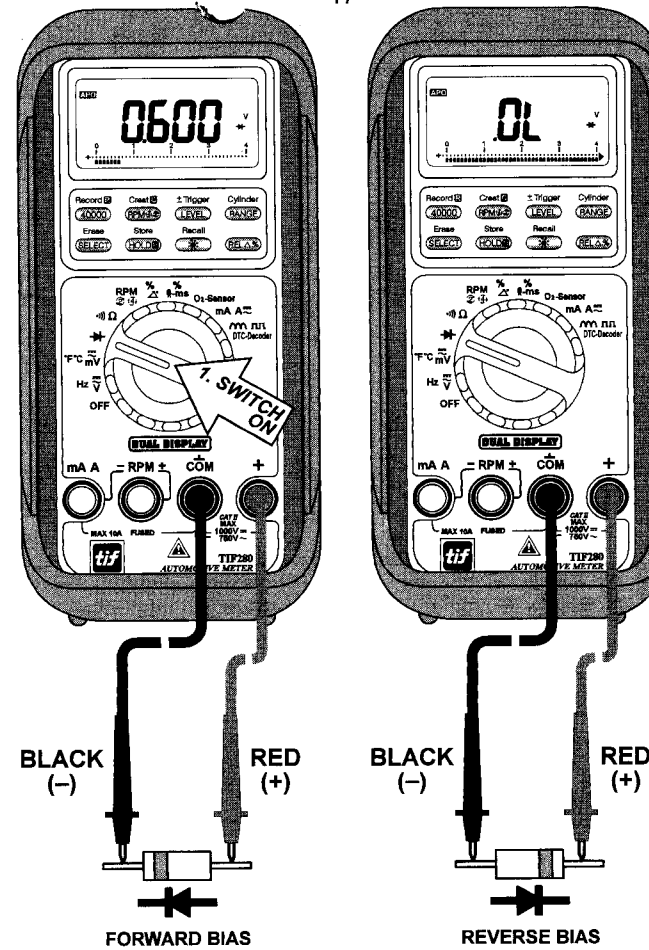

FIG 6. \rightarrow DIODE TEST FUNCTION
- 3) Connect the test leads as shown in FIG 6 and observe the digital display